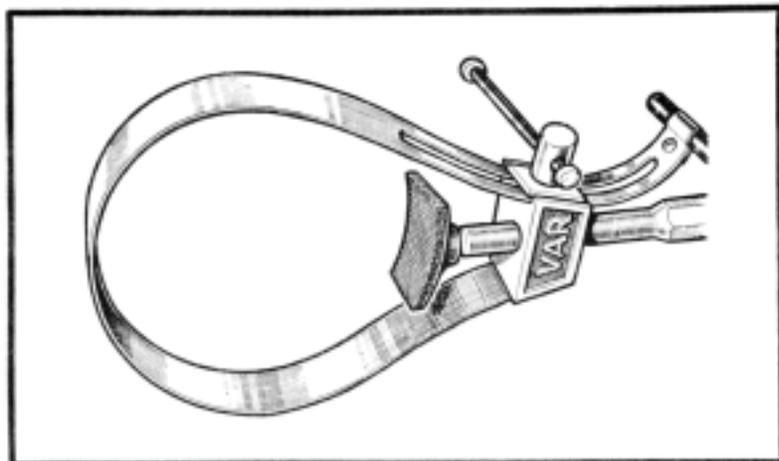

Fig. 7-7. A flywheel holder supplied by Motobecane.
**Service.** The clutch mechanism is essentially the same for single- and variable-ratio machines. Hold the clutch drum with a strap wrench (Fig. 7-7) and remove the 17-mm nut (right-hand thread, overhand and left to loosen). Remove the washers and replace the nut with special tool No. 69142. This tool keeps things together when the pulley is removed and takes the guess work out of clutch adjustments. Remove the pulley.
The drum can be engaged with the crankshaft by either set of shoes or by the sprag clutch (3). Sprag clutches work by means of a wedging action. In the case of clutch 3, the working elements are rectangular in cross-section and held at an angle to the shaft (Fig. 7-7). As this particular example is set up, power can be transmitted from the drum to the crankshaft, but not in the other direction. Once the engine starts, the sprag clutch slips and drum engagement is a function of the shoes.